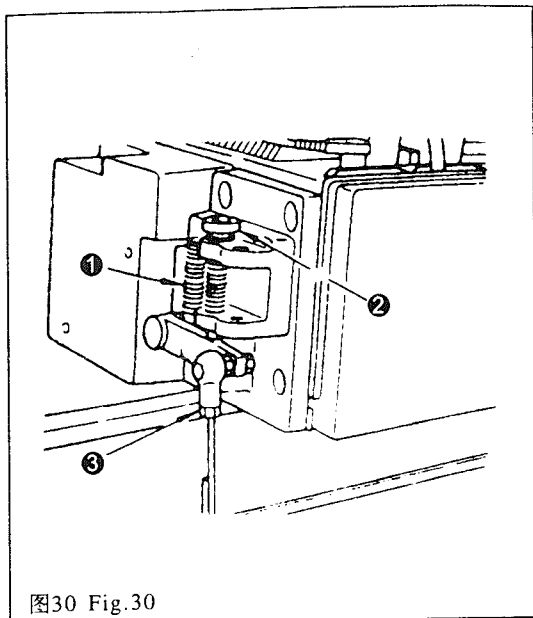

图30 Fig.30
23. 踏板压力与行程(图30)
23. PEDAL PRESSURE AND PEDAL STROKE (Fig.30)